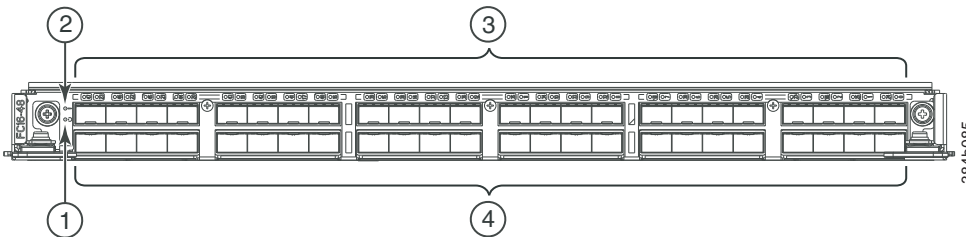

Figure 46. FC16-48 port blade
- Figure 46 shows an FC16-48 port blade